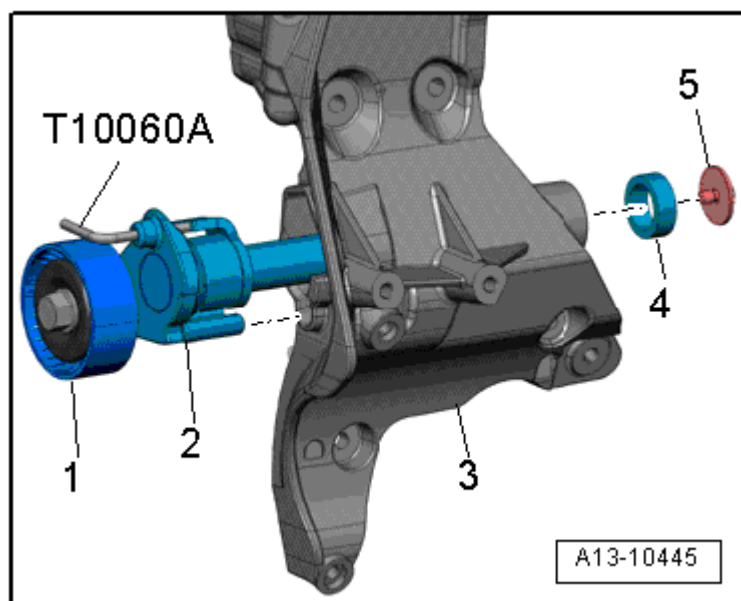

Fig. 7: Identifying Tensioning Device For Ribbed Belt
- Installed position, refer to **Fig. 7**.